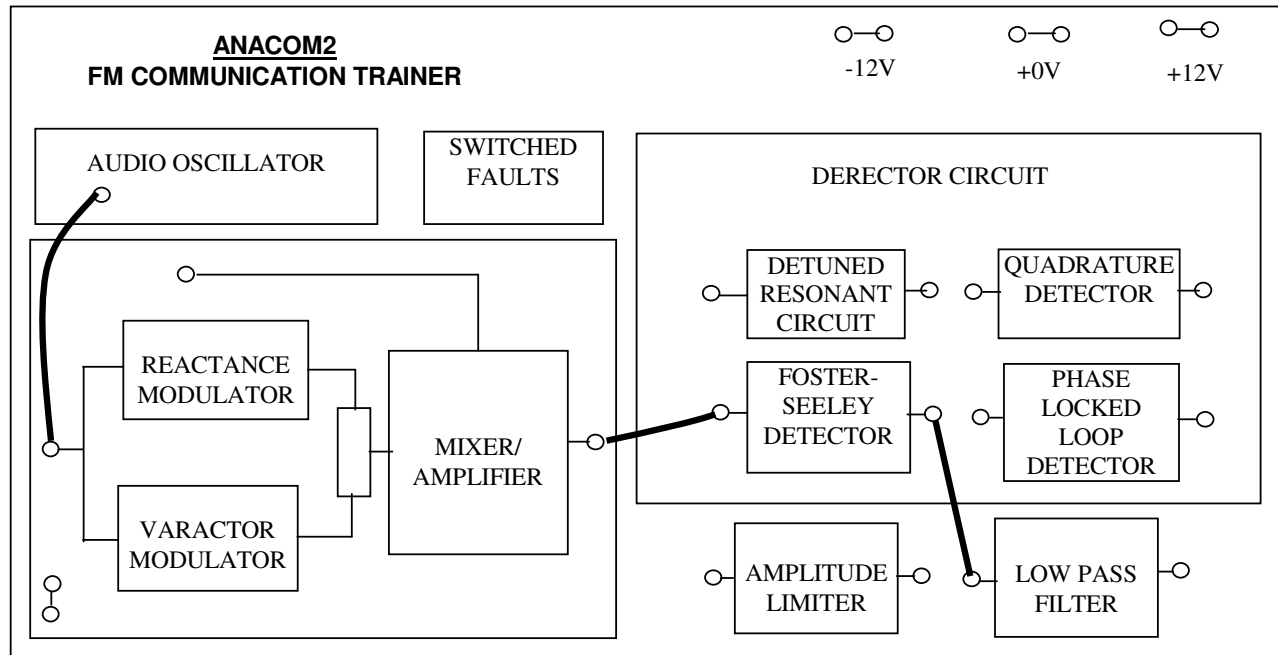

Fig.3
- 5) Link the AUDIO OSCILLATOR output to the AUDIO INPUT of the MODULATOR CIRCUIT as shown in Fig. 3 and put the VARACTOR/VARACTOR switch in the VARACTOR position.
Adjust CARRIER FREQUENCY preset (in the VARACTOR MODULATOR block) to have carrier frequency of 450 kHz. Now modulate this carrier with a signal from the AUDIO OSCILLATOR and apply this modulated signal to the input of the FOSTER-SEELEY block as shown in Fig.3.